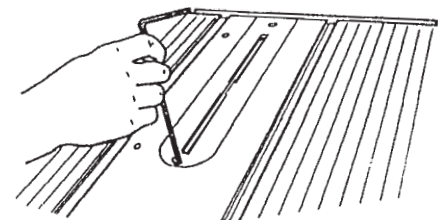

Figure C-14
7. Use a 5/32" Allen wrench to remove the table insert, as demonstrated in Figure C-14.